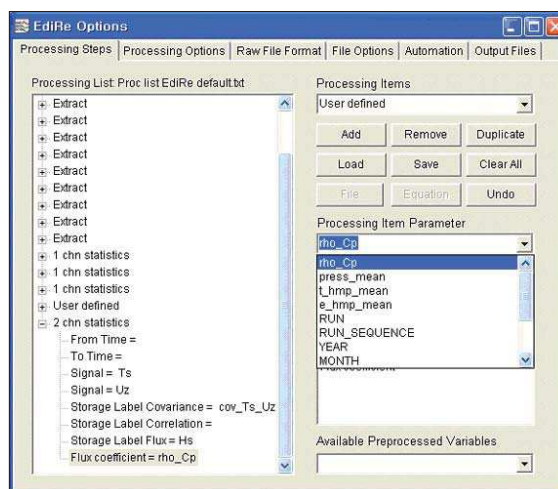

Figure 17: The computed sensible flux coefficient is plugged into the 2 chn statistics instruction.
24. You can now plug in the computed sensible heat flux coefficient to the “2 chn statistics” instruction to complete the flux computation, as shown in Figure 17.